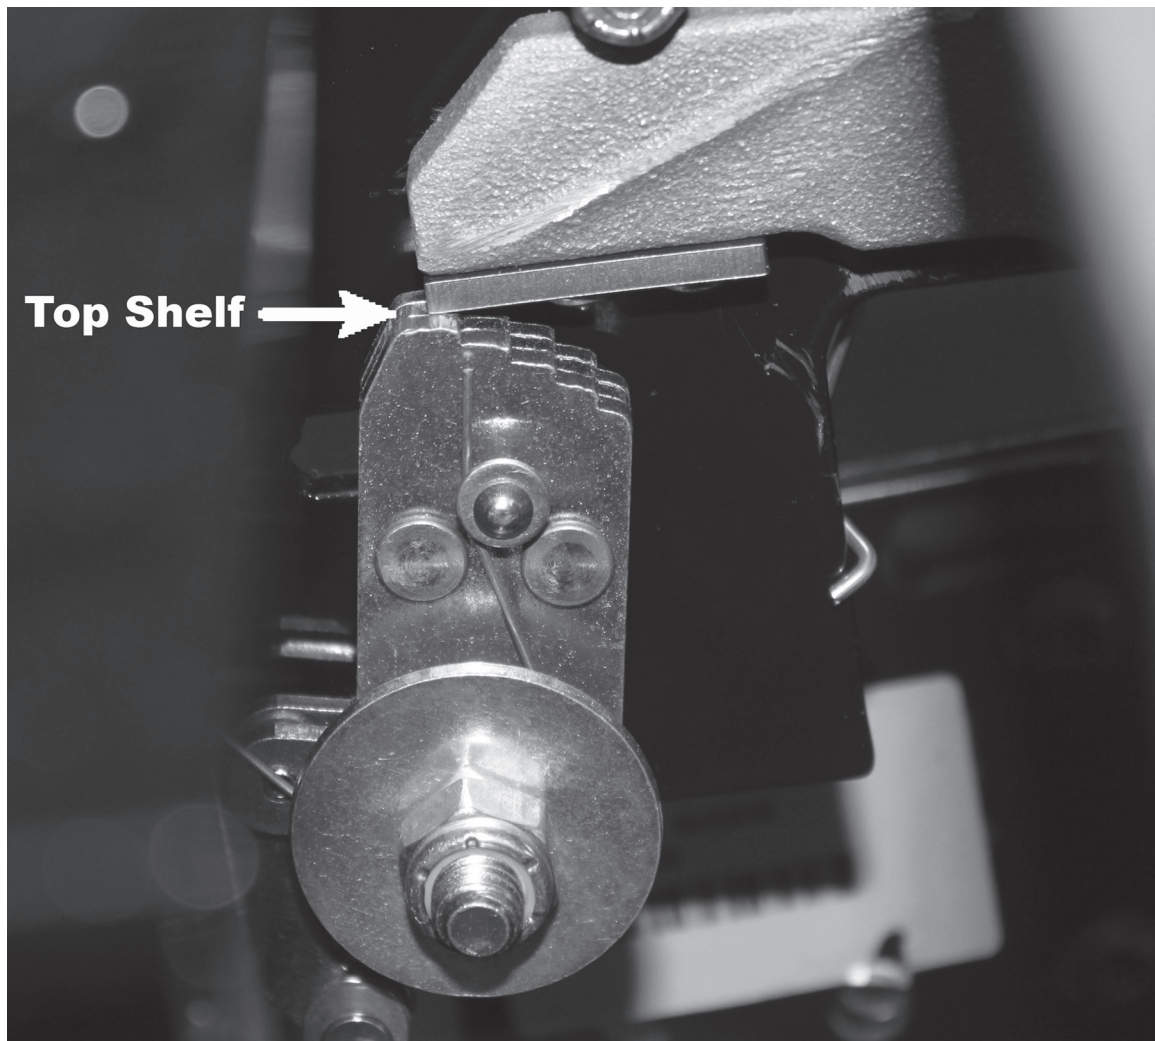

Figure 8
17. With the Top Clamp in the closed position, check that the Serrated Latch Assembly is fully engaged (*see Figure 8, below*).